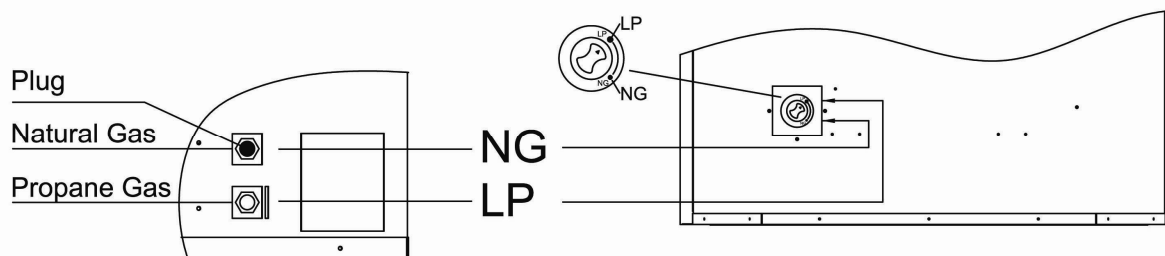

Figure 15
2. For PROPANE GAS, press in knob using a flat screw driver with a blade the width of a quarter and turn knob counterclockwise  until the knob locks into the LP position (see Figure 15). Selection valve must be locked into either the LP position or the NG position.